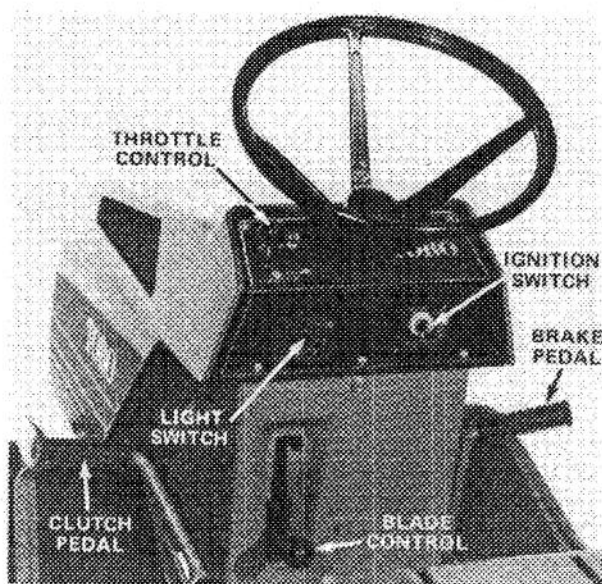

Figure 15
Clutch Pedal (Fig. 15) — Foot operated clutch pedal is used in conjunction with the gear shift. Clutch must be fully depressed when shifting gears so that friction drive plates are separated on clutch assembly.
Throttle Control (Fig. 15) — Throttle control connects to and operates carburetor mounted throttle and choke. Control has three positions: IDLE, FAST and CHOKE. To obtain choke position control must be pushed slightly to the right and forward.
Ignition Switch (Fig. 15) — Switch is part of battery ignition system, and it has three positions: OFF, ON and START. Key automatically returns to ON position from START position when released after engine starts.
Light Switch (Fig. 15) — Two position switch for actuating headlights. Lights will not function unless engine is running as current is supplied by the engine alternator.
Blade Control (Fig. 15) — Blade control engages and disengages the cutter blade. A spring wrap clutch, which absorbs slippage and shock loading, actuates the blade drive pulley.
Brake Pedal (Fig. 15) — Foot operated pedal, which when depressed, actuates a disc brake assembly at the side of the transmission. Clutch pedal should also be depressed while braking to achieve maximum brake effectiveness.
3. To release the parking brake, depress brake pedal (Fig. 15), and push parking brake lever down to return it to its disengaged position. Release brake pedal slowly.